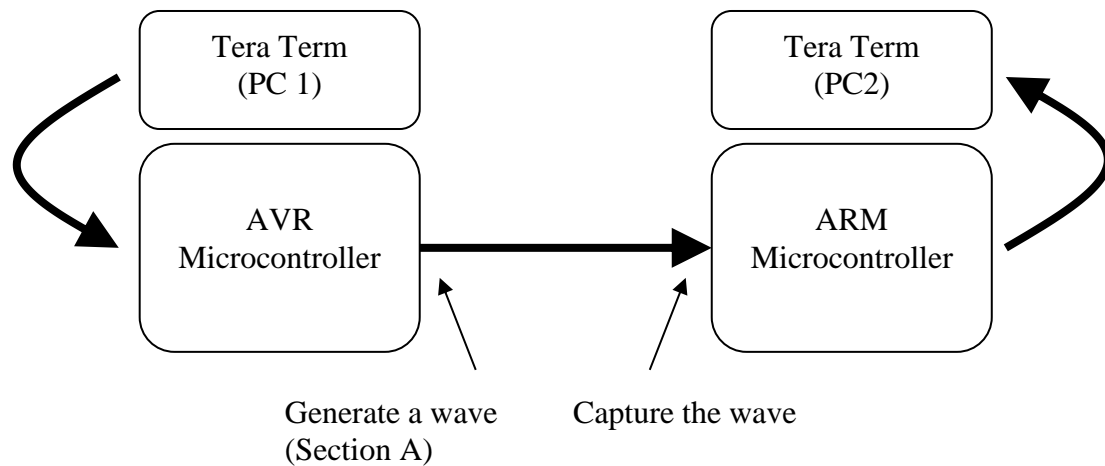

Figure 2
1. The first C program gets an integer from Tera Term (PC1) and sets it as the pulse width (in clock cycles) of a wave generated by the AVR microcontroller (see Figure 2). The frequency of the wave should be 500 Hz. The received integer should be echoed in Tera Term. You can assume that the integer must be between 10 and 99.